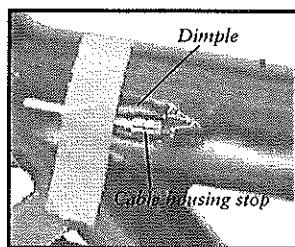
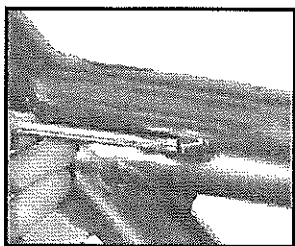

Fig. 9
Fig. 10
1. With a hammer, lightly tap a punch, broad blade screwdriver, or similar tool (Fig. 10) against the cable housing stop (Fig. 9) until it sits flush with the frame dimple.